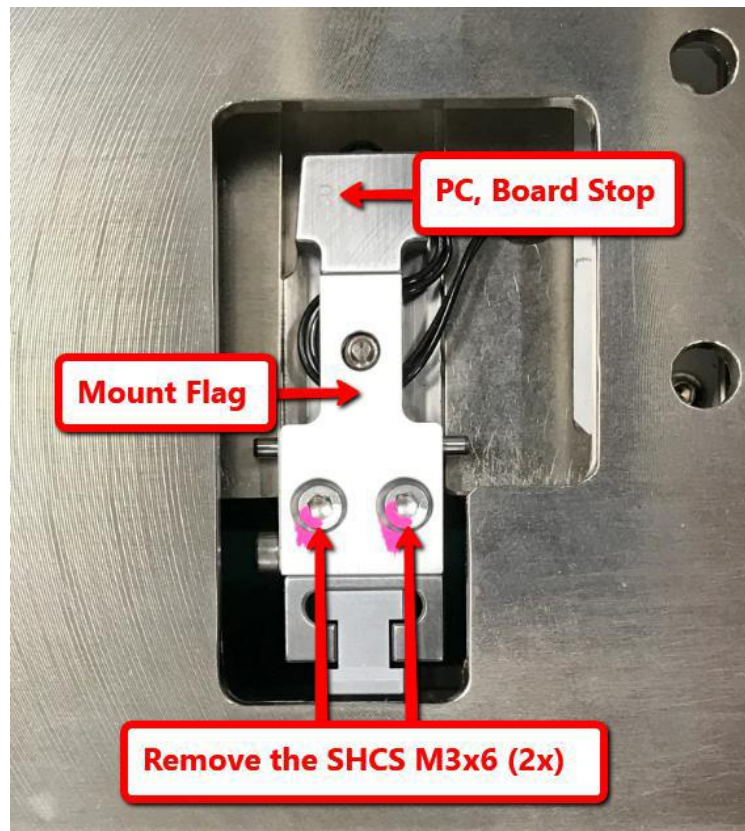

Figure 1 PIP Sensor Mount Flag
1. Loosen SHCS M3x6 (2x) & remove Mount Flag from the PC, Board Stop as Figure 1